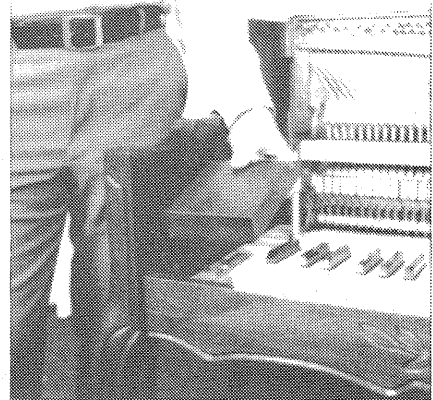

FIGURE 1-17 Piano #1 - Key Blocks (7 and 8).
7. The removal of the Key Blocks (7 and 8) was the same for both pianos, so the removal of one from Piano #1 is shown in FIGURE 1-17.